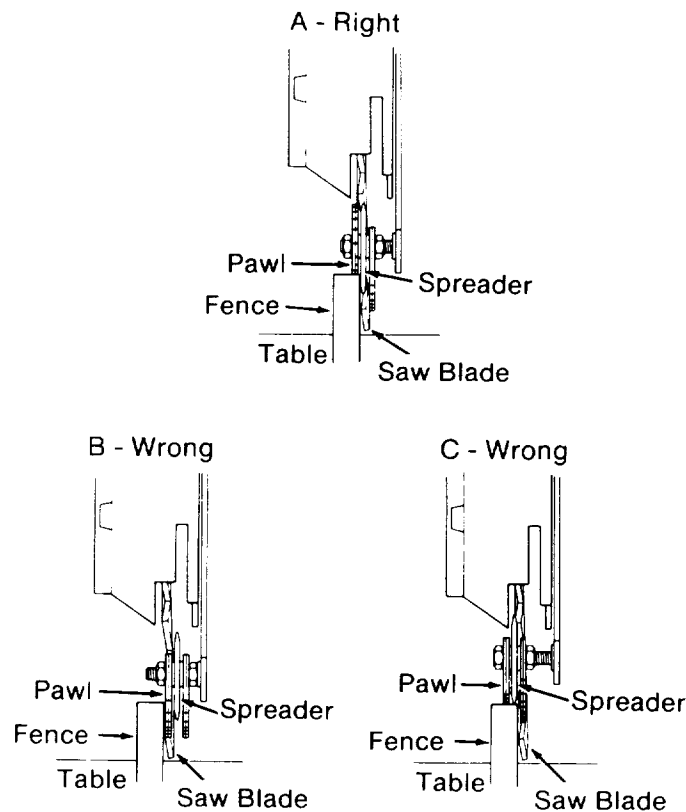

Fig. 101-A,B,C
12. If the *spreader* and *blade* both rest against the *fence*, no adjustment is needed. (Figure 101-A) Go to step 17, or
If the *spreader* is in front of the *fence* but not touching it (Figure 101-B), go to step 13, or
If the *spreader* hits the top of the *fence* (Figure 101-C), go to step 13.